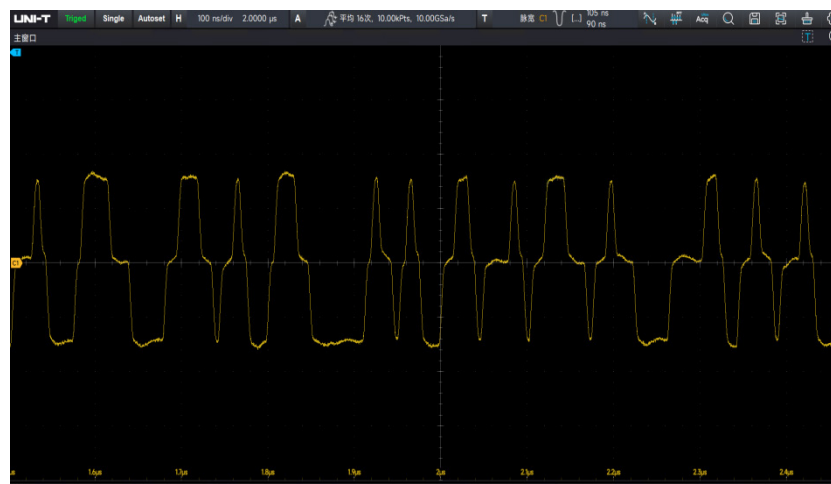

Figure 2-2 100M Idle Pattern
Once connected, the D1 (3.3V power) and D2 (100M mode) LEDs in Zone ⑤ should illuminate. The oscilloscope should then display a waveform pattern similar to Figure 2-2. Launch the oscilloscope's Ethernet compliance test software to begin testing.